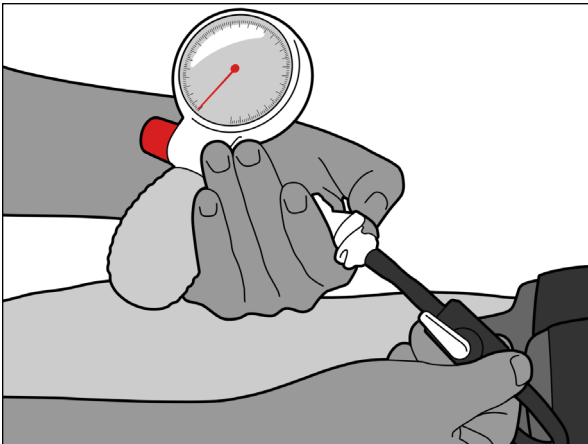

Fig. 15
2. Disconnect the Quick Disconnect Fitting by pressing the grey button on the Quick Disconnect Fitting (Fig. 15).